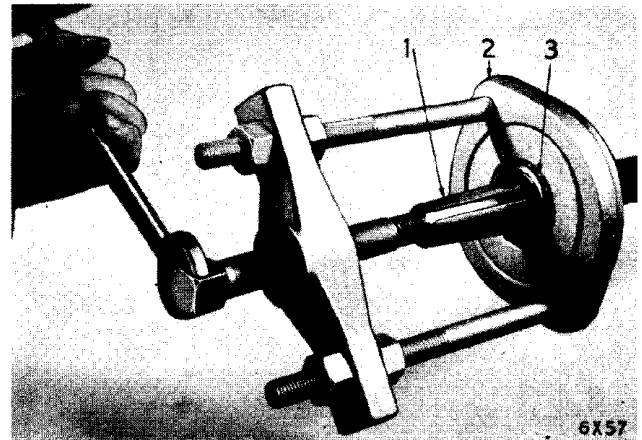

Fig. 5—Removing Bearing from Axle Drive Shaft
- (6) Remove bearing from axle shaft (Fig. 5).